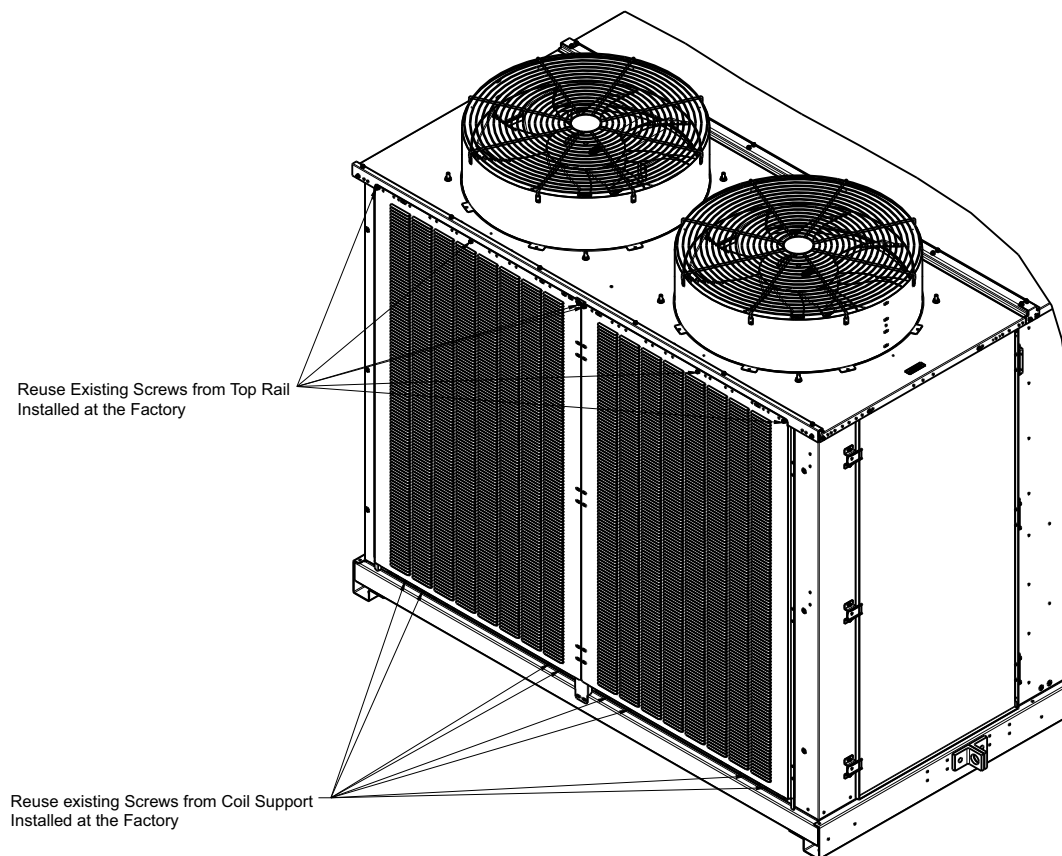

Fig. 1 — Remove Screws
4. Remove the screws in the top panel of the rooftop unit above the condenser coil. Save the screws. See Fig. 1.
5. Remove the screws at the base of the outdoor coil where the hail guard panel will be installed. Save the screws. See Fig. 1.